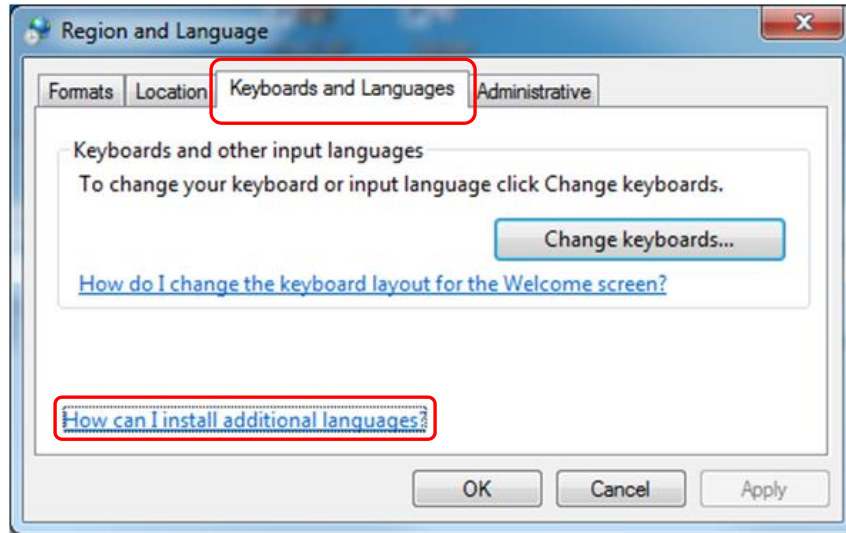

Figure IV-5. Region and Language Window (Keyboards and Languages Tab)
1. Click **Start > Control Panel** on the Windows Desktop and select the **Clock, Language, and Region** window that is available through the Control Panel. (If you have your view set to list all of the functions in the Control Panel, go directly to the Region and Language function.) On the Region and Language window, select the Keyboards and Languages tab (Figure IV-5).